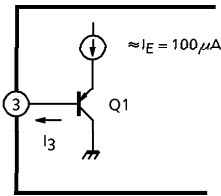

Fig.1
(1) Forward / reverse select switch
① Threshold voltage
Pin③ is coupled to the base of Q1 (PNP-Tr) as shown Fig.1.
③ I3 (In Fig.1)